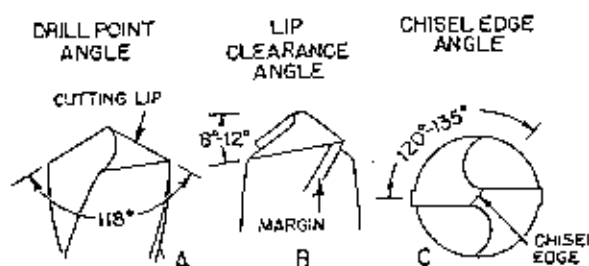
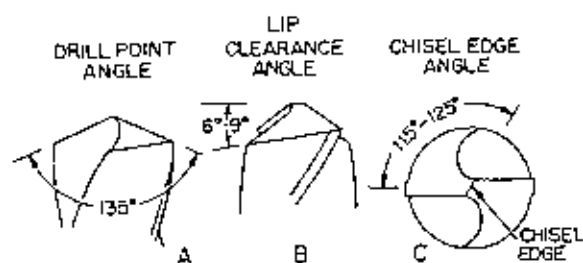

Figure 2-5-19.—Specifications for grinding a regular point twist drill.
Figure 2-5-20.—Specifications for grinding a flat point twist drill.
The following requirements are of greatest importance in twist-drill grinding: (1) equal and correctly sized drill-point angles, (2) equal-length cutting lips, (3) correct clearance behind the cutting lips, and (4) correct chisel-edge angle. All four are equally important when grinding either a regular point (fig. 2-5-19) which is used for general purposes, or a flat point (fig. 2-5-20) which is used for drilling hard and tough materials.
Lip clearance behind the cutting lip at the margin is determined by inspection. This means that you look at the drill point and approximate the lip-clearance angle (see figs. 2-5-19B and 2-5-20B), or compare it to the same angle that has been set up on a protractor. The lip-clearance angle is not necessarily a definite angle, but must be within certain limits. Notice that in figure 2-5-19 B it ranges from 8° to 12° and that the range given in figure 2-5-20 B is 6° to 9°, which overlaps the first range somewhat. Whatever angle in the range is used, however, lip clearance should be the same for both cutting lips of the drill.
For a regular point, the chisel-edge angle can vary from 120° to 135° and the lip-clearance angle can vary from 8° to 12° . See figure 2-5-19 again.
For a flat point, the chisel-edge angle can vary from 115° to 125° and the lip-clearance angle from 6° to 9° . See figure 2-5-20 again. The greater these angles are in both cases, the more lip clearance there will be, and vice versa.
When lip clearance is being "ground into" a drill, inspection of the lip-clearance angle (shown at B in figs. 2-5-19 and 2-5-20) and of the chisel-point angle (shown at C in figs. 2-5-19 and 2-5-20) will be your guide to the amount of clearance you have ground into the drill behind the cutting lip along its entire length. The greater these angles are, the more clearance there will be behind their respective ends of the cutting lip. Too much lip clearance, which occurs when both the lip-clearance angle and the chisel-edge angle exceed their top limits, weakens the cutting edge or lip by removing too much metal directly behind it. Too little or no lip clearance, prevents the cutting edge from producing a chip, or cutting, and the drill will not drill a hole.